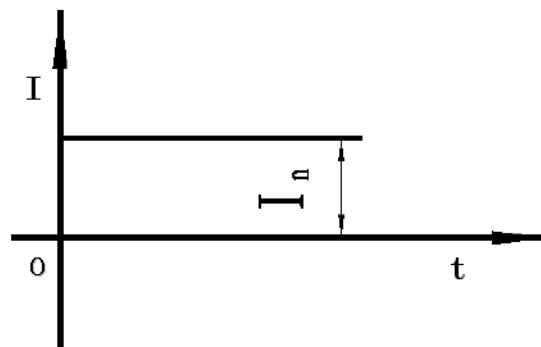

Fig. 4-3-9: Waveform and parameter in DC constant current
• Waveform and parameter in DC constant current (Fig. 4-3-9)